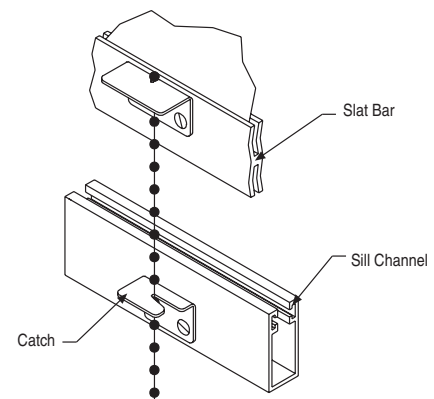

Figure 16
- ⑭ Check shade operation.
- ⑮ For spring roller operation, attach bead chain to slat bar and catch to sill channel. To operate shade, pull down, locking in place using the bead chain (see Fig. 16).